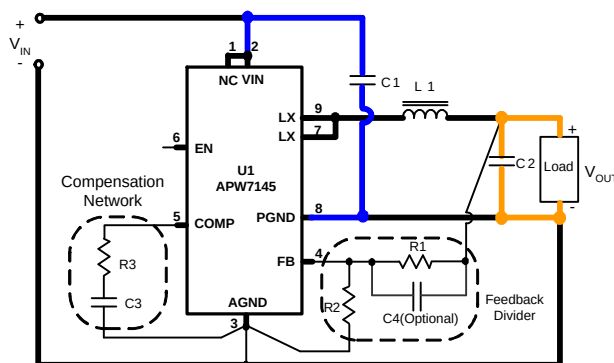

Figure 2. Current Path Diagram
In high power switching regulator, a correct layout is important to ensure proper operation of the regulator. In general, interconnecting impedance should be minimized by using short and wide printed circuit traces. Signal and power grounds are to be kept separating and finally combined using ground plane construction or single point grounding. Figure 2 illustrates the layout, with bold lines indicating high current paths. Components along the bold lines should be placed close together. Below is a check-list for your layout:
2. In Figure 2, the loops with same color bold lines conduct high slew rate current. These interconnecting impedances should be minimized by using wide and short printed circuit traces.